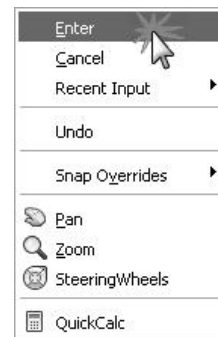

Figure 2-1.5 Right-click Menu; Line command active
10. After clicking your second point (i.e., the endpoint), **right-click** anywhere on the screen and select **Enter** from the pop-up menu (Figure 2-1.5).